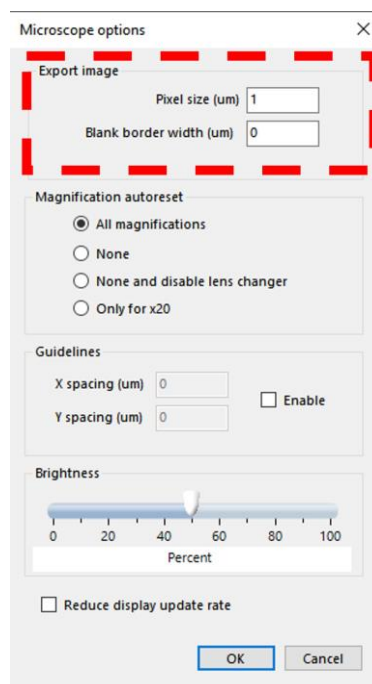

Figure 3 Set the pixel size of the exported image.
- ii. Set the pixel size (μm): Input the preferred pixel size in the “Pixel size (μm)” box (Figure 3). The default pixel size is 1 μm . Note down the pixel size, which will be used later. Click OK when done.